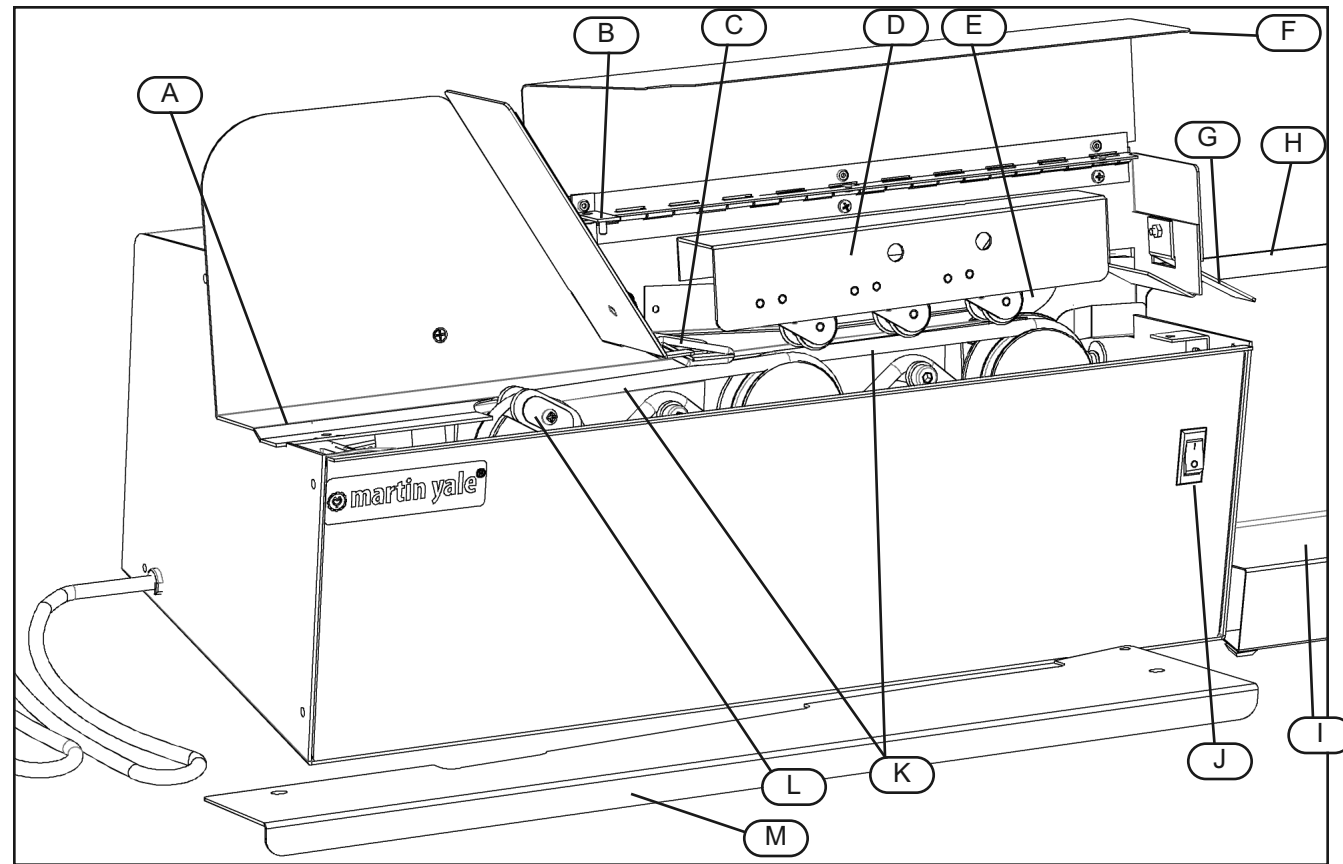
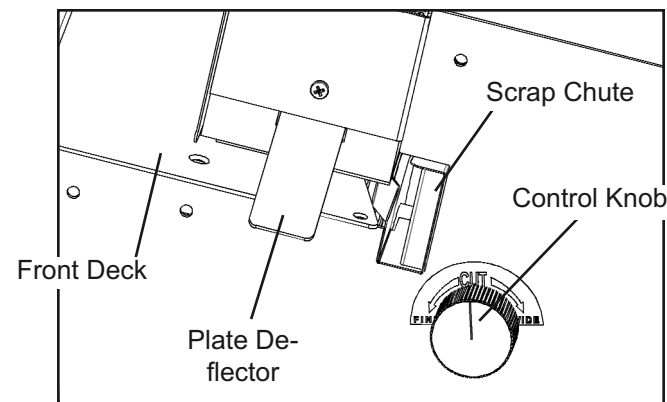

Figure 1
Figure 2
* Note the twin spiral feed belts (K, Fig. 1). Their spiral counterclockwise action shuttles envelopes against the back of the deck for precision slitting. Note that the belt at left is angled more sharply. This "pre-feeds" envelopes to the belt at right.
* The feed roller assembly (D, Fig. 1), another Model 62001 feature, acts to further assure that different sized pieces will be shuttled inward and held against the back of the deck.
* The retarder (C, Fig. 1) prevents jamming at the loading end. Utilizing a flexible material, the retarder is capable of handling a wide variety of envelope thicknesses. This effectively prevents entry of more than one piece of mail at a time.
The feed roller assembly (D, Fig. 1), utilizes independent spring loaded rollers. Each roller applies individual pressure to compensate for letters of varying thickness. This action assures envelopes are guided straight into the blade assembly (E, Fig. 1).
Self-sharpening blades made of precision steel cut a measured strip from each envelope, whether fed face-up or face-down. The control knob at right (Fig. 2) adjusts the blade assembly and permits the operator to vary the width of cut from wide to fine.
The catcher assembly (I, Fig. 1) receives all opened envelopes as they leave the blade assembly. The plate deflector angles envelopes downward to aid stacking. A removable scrap bin (H, Fig. 1) keeps scrap separate from opened envelopes for easier disposal.
Interiors of most mail opening machines are inaccessible without the removal of the entire operating assembly. The Model 62001 has a unique split deck feature which solves that problem. The deck is split lengthwise into two halves, front (M, Fig. 1) and rear (A, Fig. 1). The front half is removable, making cleaning, inspection and repair of the interior of the letter opener easier.
The tab of the safety interlock (B, Fig. 1) is released whenever the front cover (F, Fig. 1) is lifted. Power is automatically cut which shuts off the machine so that the operator never comes in contact with moving parts.
This is a one-time only installation. Look for the plastic packet inside the shipping carton. It contains the plate deflector and hardware. Simply insert in slot and attach as shown. (See Fig. 2)
The catcher assembly simply sits on the exit side of the opener in a position to catch processed envelopes as they are ejected from the machine (See Fig. 1 for placement). The scrap bin lies in the narrow recess of the catcher assembly. The assembly then is aligned so that the front wall of the scrap bin butts against the front edge of the scrap chute (Fig. 2).
Check the control knob (Fig.2) for width of cut desired, from wide to fine.
NOTE: Wider settings will produce more manageable chads with little to no curl. The cut should be deep enough to open envelopes cleanly but fine enough to insure that the blade does not come into contact with contents such as checks and money orders, coins, staples and paper clips. Make sure the Model 62001 is 'OFF' as indicated by the 'O' on the power switch (J, Fig. 1). Plug the machine into an appropriate power outlet.